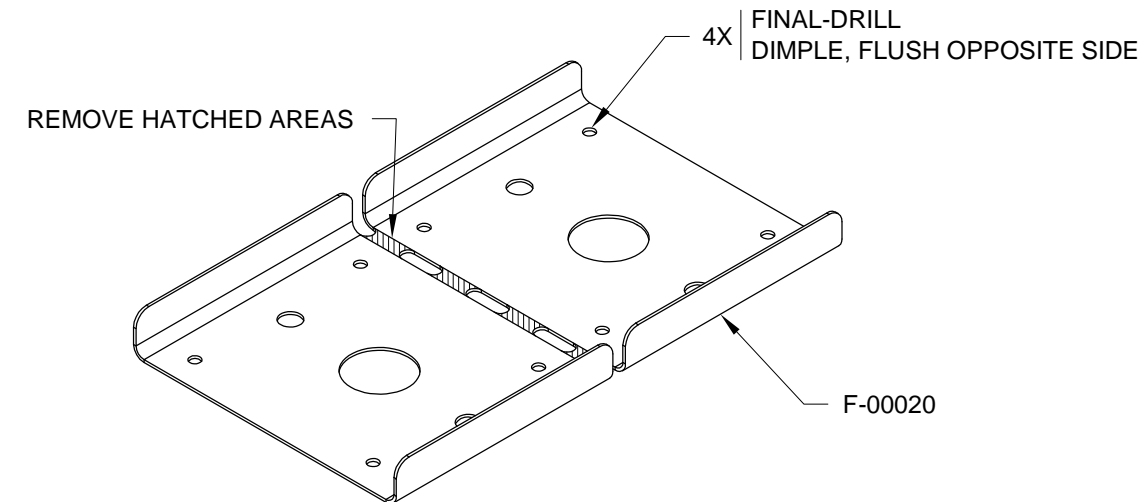

FIGURE 1: SEPARATING & PREPARING F-00020
Step 1: Separate F-00020 by removing the hatched areas shown in Figure 1.